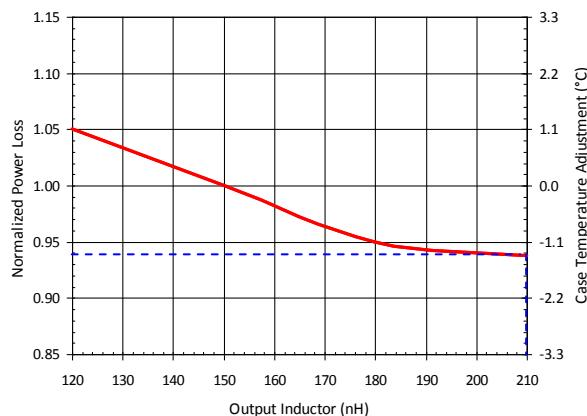

Figure 14: Power Loss vs. Output Inductor
If any of the application condition, i.e. input voltage, output voltage, switching frequency, VCC MOSFET driver voltage or inductance, is different from those of Figure 8, a set of normalized power loss curves should be used. Obtain the normalizing factors from Figure 10 to Figure 14 for the new application conditions; multiply these factors by the power loss obtained from Figure 8 for the required load current.
- 6) Determine the inductance normalizing factor with $L=210nH$, which is 0.94 based on the dashed lines in Figure 14.